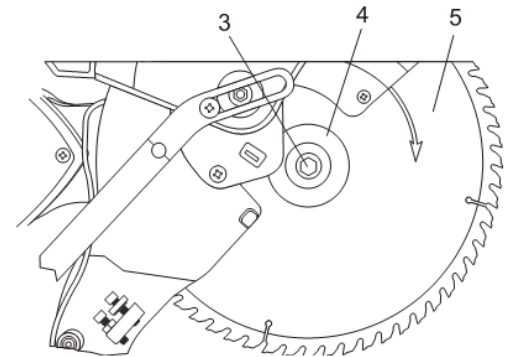

Fig. 34
5. While holding the spindle lock inward to prevent the blade rotating, place the special blade screw wrench on the blade screw (3) and turn the screw **CLOCKWISE** to remove it from the arbor (Fig. 34).